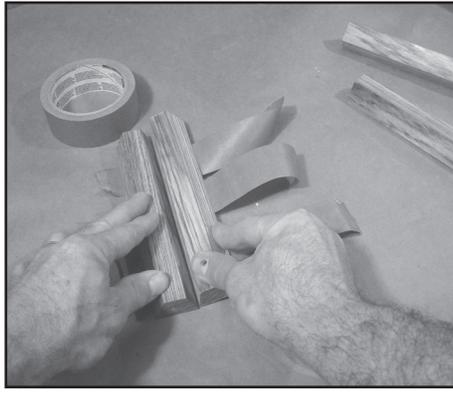

Fig. 2
2. Assemble each half by laying the staves, long point to long point, on strips of masking tape. **Fig. 2.**